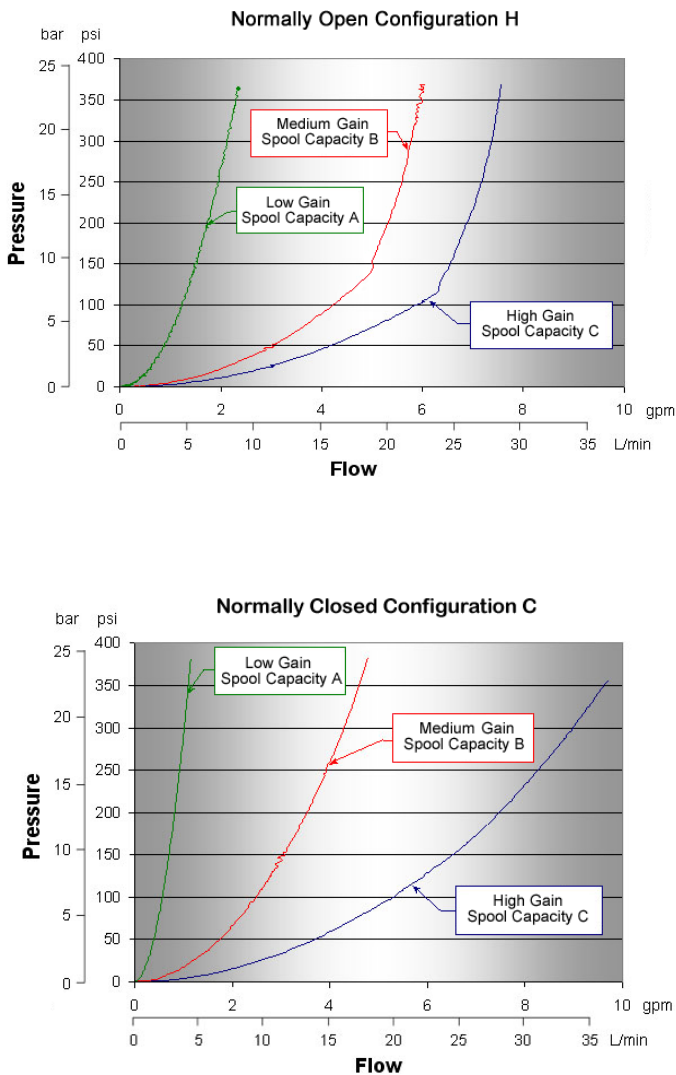

Figure 7. For various compensator differentials, the approximate FPCH and FPCC flow capacities may be estimated from the above curves.
- Valve flow ratings are based on using a 200 psi (14 bar) compensator. (See Figure 6.) (The curves in Figure 7 show flow capacities using other compensator differentials.)